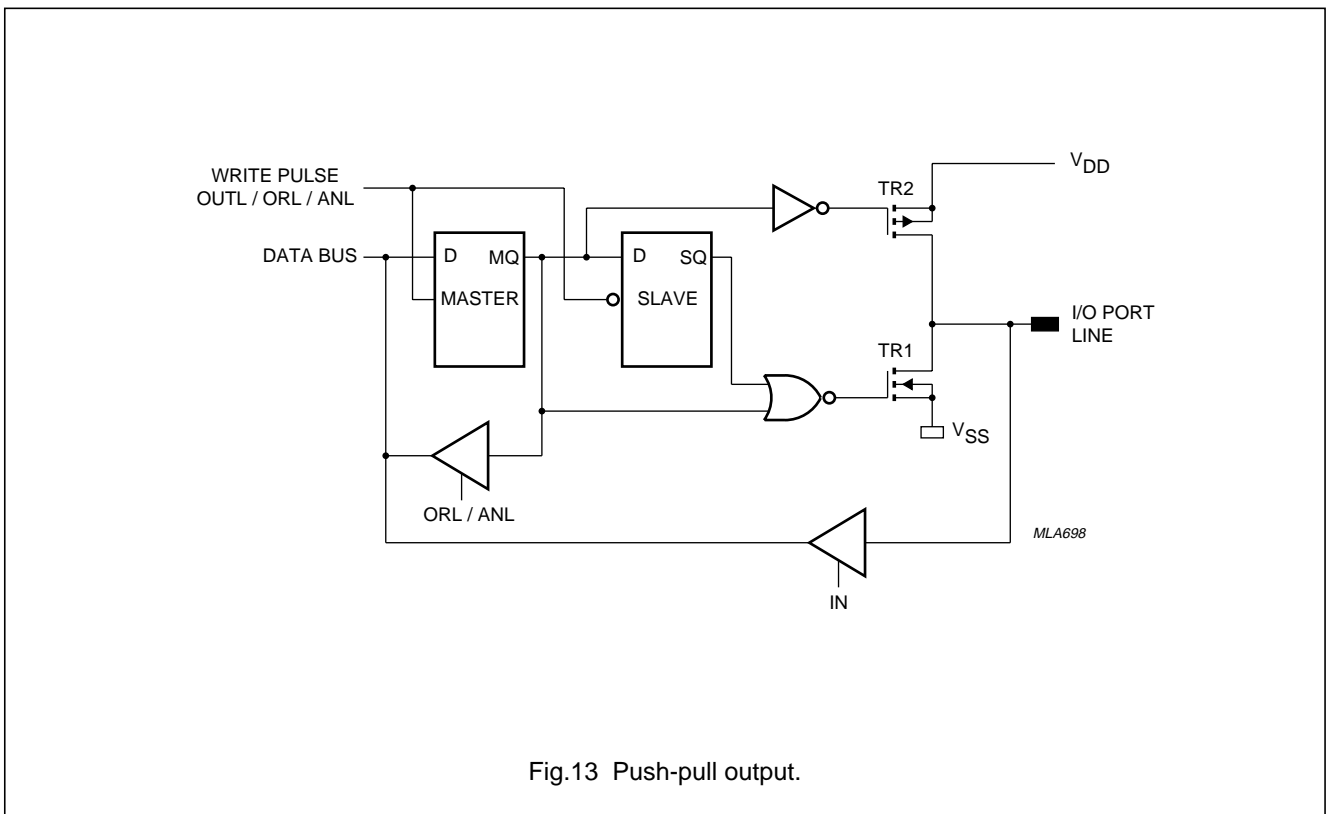

Fig.13 Push-pull output.
3. **Push-pull output;** drive capability of the output will be 5 mA (typ.) at $V_{DD} = 3$ V in both polarities. Since short circuit currents would flow during input, push-pull lines must only be used as outputs (see Fig.13).
configuration 3	push-pull output (see Fig.13)